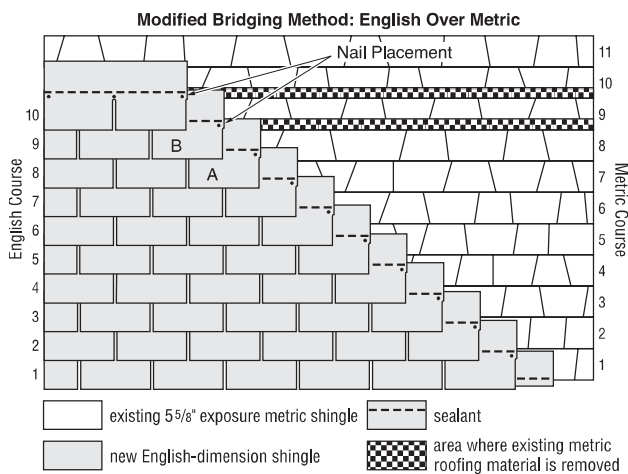

Figure 10-18: Reroofing using standard 12" x 36" shingles over metric shingles.
A standard metric shingle is typically exposed 5 5/8" to the weather. The illustration (Figure 10-18) shows an idealized method used to reroof with a 12" by 36" English-dimension shingle.
But when you reach the metric shingle's ninth course (the English shingle's eighth), the gap should not be bridged because the correct nail placement would be below the leading edge of the metric shingle underneath. Nailing in this area would draw down and warp the shingle on top, causing a hump. To eliminate the problem, you must cut and remove, at the metric shingle's eighth course, approximately 2" of the leading edge of the next metric shingle up the roof, so that the English-dimension shingle nests smoothly. Do the same for the metric shingle's ninth course; the 10th course may naturally meet the butt edge of the shingle above (Figure 10-18). Repeat this method on every eighth and ninth metric course up the roof. Counting from the first metric course, this means the 17th and 18th courses would also be cut back, as would the 25th and 26th, and so on.
**NOTE:** On an actual roof the course exposures will vary, so the directions above may need to be modified. An important **rule of thumb** is this: Each time the top edge of the English shingle overlaps the bottom edge of a metric shingle course by less than 1 1/2", as shown by shingles "A" and "B" in Figure 10-18, cut that metric shingle back by 2" (or to fit) to allow the top edge of the English shingle to nest smoothly below it.